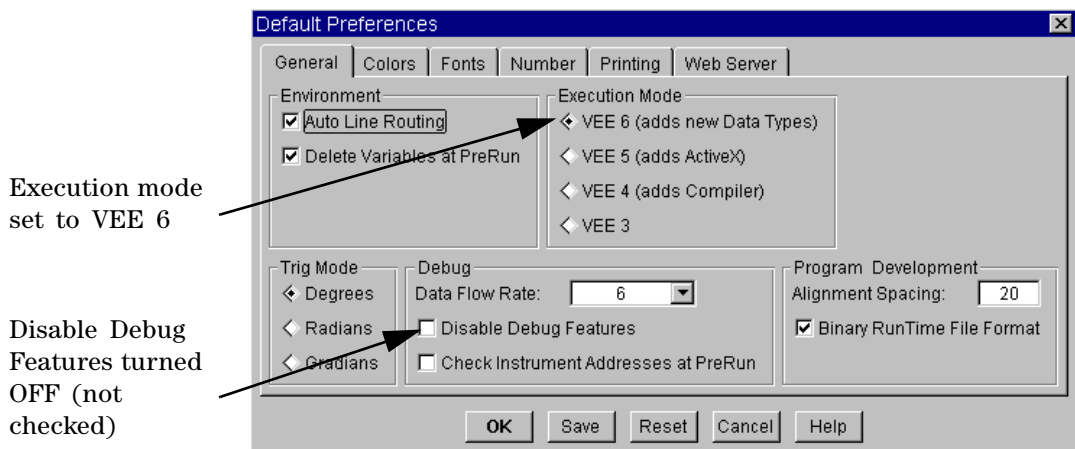

Figure 291 Changing the Execution Mode in Default Preferences
- 2 In the General folder (already displayed, since it is the first folder), under Execution Mode, select VEE 6.0 as shown in Figure 291. In the same folder, make sure that Disable Debug Features is *not* selected. Click **OK**.